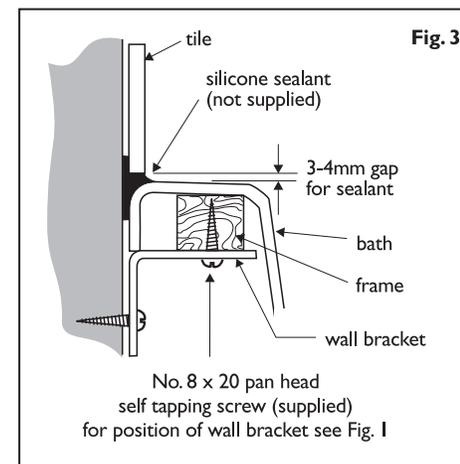

Fig. 3
5. Fix the two wall fixing brackets to bath frame as indicated in Fig.3. Pilot drill holes in frame before fixing brackets. Position wall bracket so they are accessible when the bath is installed.
6. Fix bath to wall (Fig. 3).